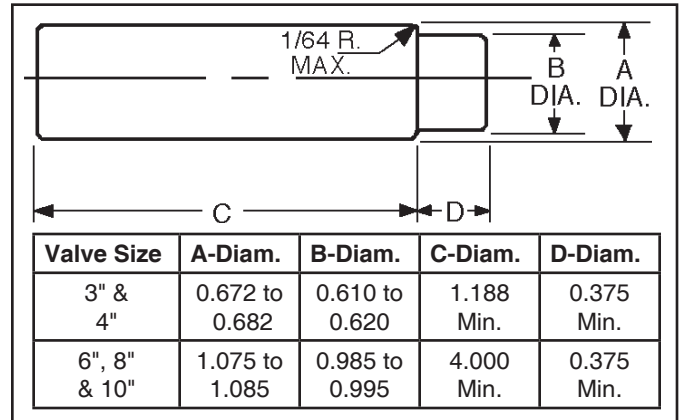

FIGURE 1
7. Press the liner (10) out of the body and remove O-rings (6) from the liner.
8. Remove the pipe plug (2) from the end of the body (1).
9. It is seldom necessary to replace the bearings (7, 8 and 9). If visual inspection of the stem (3.2) reveals excessive wear marks and/or deterioration, remove the bearings with the bearing ram. See Figure 1. Insert the bearing ram in the bonnet and press the main bearing(s) (7 & 8) out. Remove the ram and insert it through the pipe plug end of the body (1) and press main bearing (9) out.
8. Remove the upper sleeve (15).
9. Remove the pipe plug (2).
10. It is seldom necessary to replace the main bearings (7). If visual inspection of the stem (3.2) reveals excessive wear and/or deterioration, remove bearings (7) with the bearing ram. See Figure 1. Insert the ram from the body bore and with a long punch drive bearing(s) out through the bonnet. Remove the ram, insert it in the bearing at the pipe plug (2) end from within the body (1) bore and drive the bearing out.